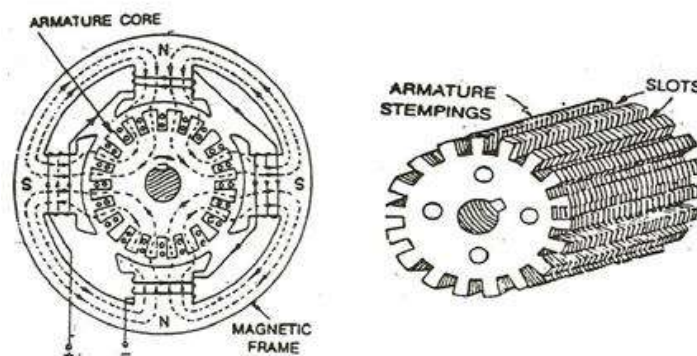

Figure.1.10. Construction of Armature Core.
1.3.2.1. Armature Core. The armature core of DC Generator is cylindrical in shape and keyed to the rotating shaft. The outer periphery of the armature has grooves or slots which accommodate the armature winding. The armature core of a DC generator houses the conductors in the slots. It also provides an easy path for the magnetic flux as shown in the figure 1.10.
1.3.3.1. Commutator. The commutator, which rotates with the armature, is cylindrical in shape and is made from a number of wedge-shaped hard drawn copper bars or segments insulated from each other and from the shaft. The segments form a ring around the shaft of the armature. Each commutator segment is connected to the ends of the armature coils. The commutator construction is shown in the figure 1.10.